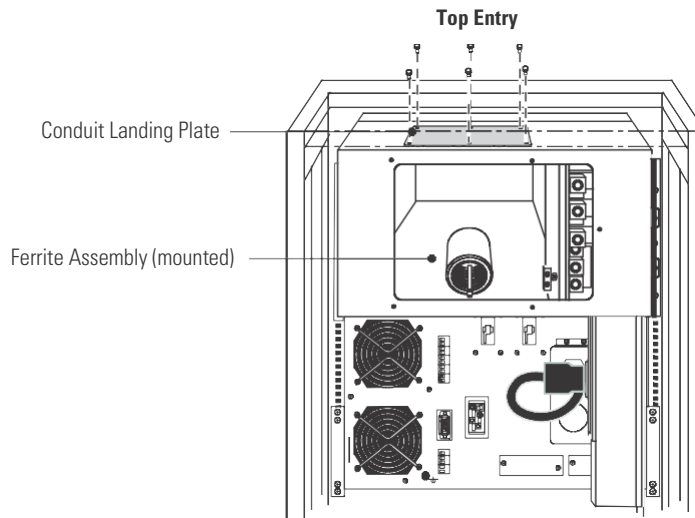

Figure 17. Removing the Top Entry Conduit Landing Plate
6. Remove the six screws on the conduit landing plate and retain. Remove and retain the plate (see Figure 17).
- Route the three input phases and the input neutral through the mounted or loosened ferrite assembly (see Figure 17).